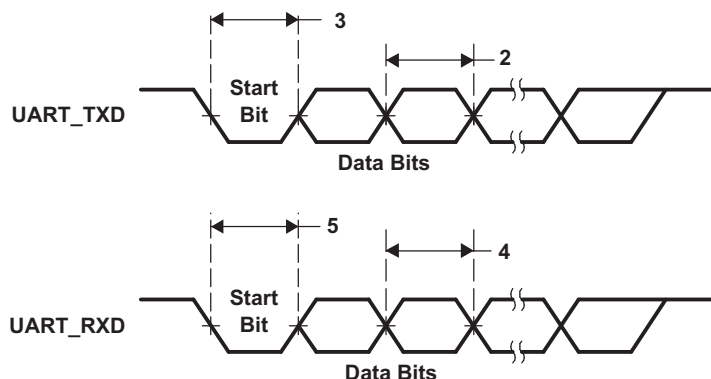

Figure 5-29. UART Transmit/Receive Timing
Table 5-30. Timing Requirements for UART Receive⁽¹⁾⁽²⁾ (see Figure 5-29)
- (1) U = UART baud time = 1/programmed baud rate.
- (2) These parametric values are measured at DV_{DDIO} = 3.3 V, 2.75 V, and 2.5 V
Table 5-31. Switching Characteristics Over Recommended Operating Conditions for UART Transmit^{(1) (2)} (see Figure 5-29)